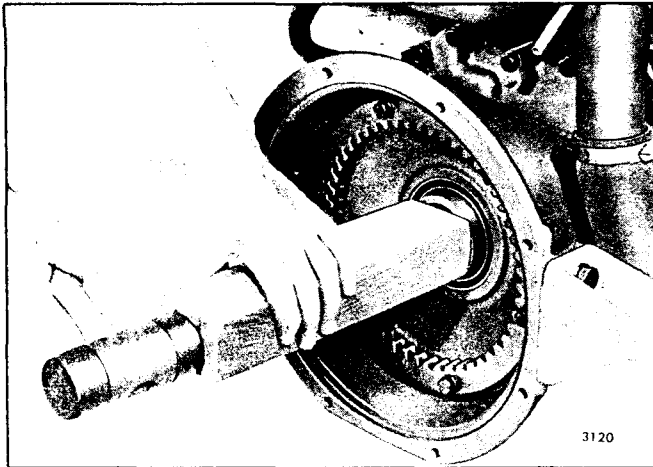

Fig. 3 - Loosening Clutch Drive Adaptor
5. Use a wood block and hammer as shown in Fig. 3 to loosen the clutch drive adaptor from the crankshaft.